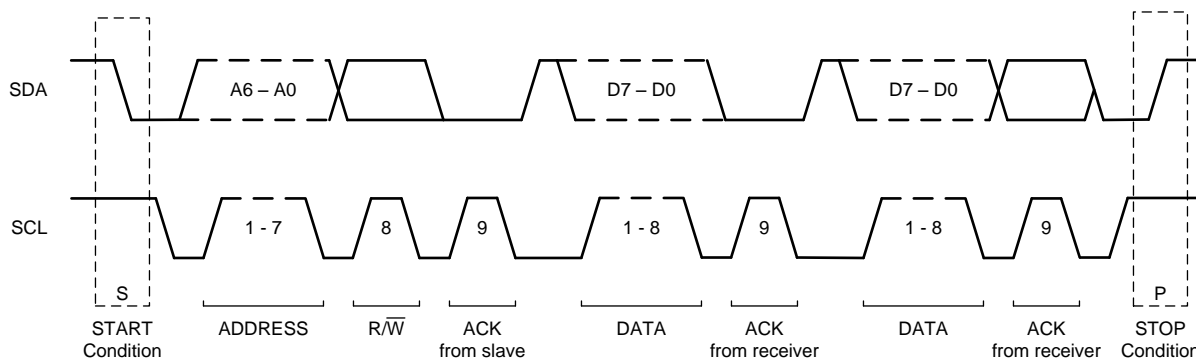

图 11. I2C Data Transfer Format
图 11 shows the format of the data transfer. The master initiates all transactions with the TLA202x by generating a START (S) condition. A high-to-low transition on the SDA line while SCL is high defines a START condition. The bus is considered to be busy after the START condition.